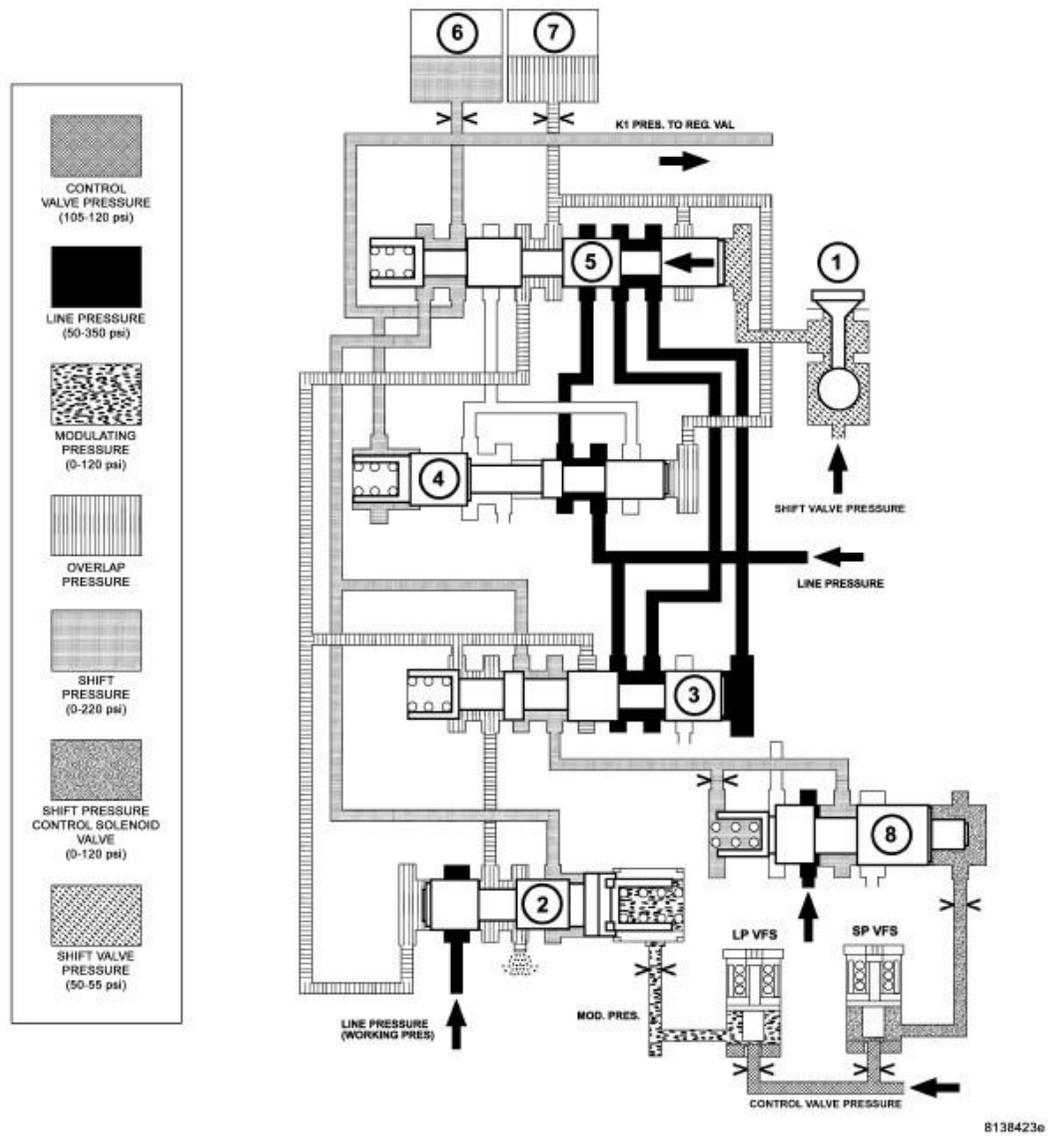

Fig. 17: Shift Phase - 1-2 Shift Phase 1
When the 1-2 and 4-5 shift solenoid valve (1) is turned on, the shift valve pressure (p-SV) is directed onto the end face of the command valve (5). Refer to **Fig. 17**. The command valve is moved and the shift pressure (p-S) coming from the shift pressure shift valve (3) is directed via the command valve (5) onto clutch K1 (6).